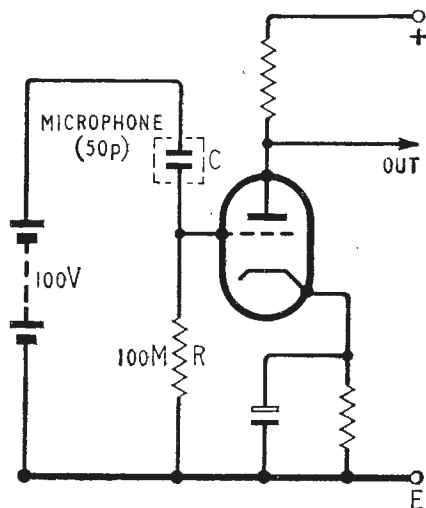

Fig. 1. Conventional electrostatic microphone circuit.
THE conventional way of using an electrostatic (or condenser) microphone is shown, in its simplest form, in Fig. 1. The resistance R is made so large that, even at low audio frequencies, insufficient current can flow into or out of the microphone capacitance C , during one audio cycle, to cause a significant alteration in the stored charge Q . Since $Q=CV$, it follows that if Q is kept constant, the voltage V across the capacitance must vary when acoustic pressure causes C to vary. With the values shown, the response will be 3 dB down at about 30 c/s. From the point of view of signal-to-noise ratio, however, it is advantageous to use an even higher value of
When, in 1957, the writer first considered the problem of using an electrostatic microphone with purely transistor circuitry, it was quite obvious that the impedances involved in a circuit of the Fig. 1 type were far too high for it to be practicable simply to replace the valve by a transistor.*
* It is interesting to reflect, however, that the notion of transistorizing the Fig. 1 circuit now seems to be much more nearly a satisfactory practical proposition than it did in 1957. This is because some types of silicon planar transistor are now available which will operate satisfactorily, in very high impedance circuits, at collector currents of a small fraction of a microamp.
Whilst the signal-to-noise ratio obtainable when using such a transistor in the Fig. 1 type of circuit would probably be rather inferior to that given by a valve, there are signs that other amplifying devices may in due course become available which will overcome this limitation. One such device is the insulated-gate field effect transistor (ref. 1) and another is the insulator valve (ref. 2).